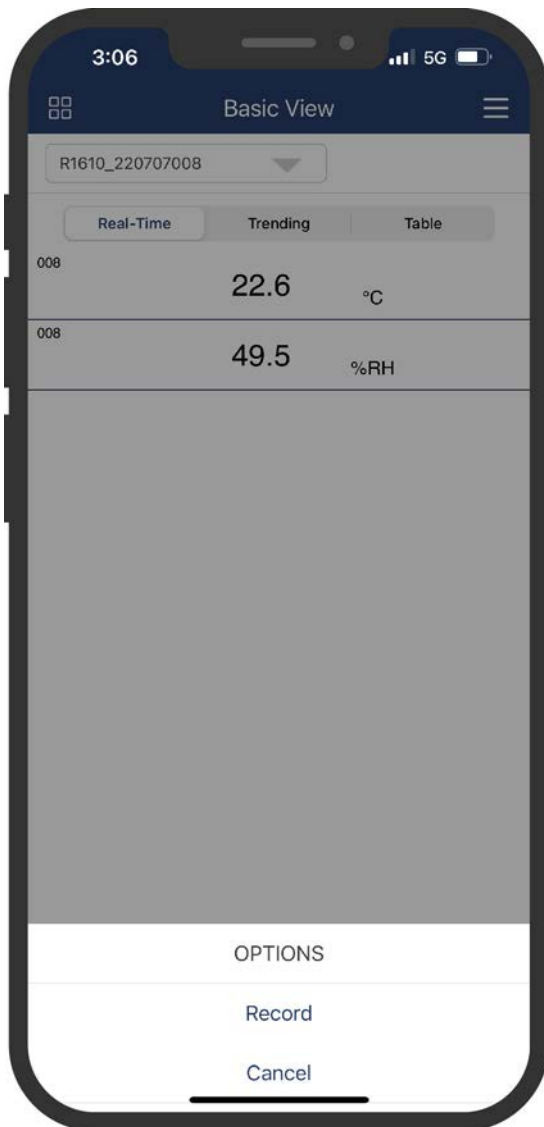

Figure 15
2. Tap on "Record" to proceed to the next screen or "Cancel" to resume normal operation. (Figure 15)